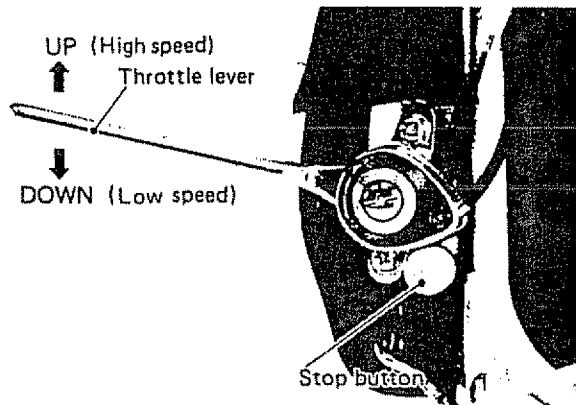

Figure 7
3. Push up throttle lever. (Fig. 7)
2. Stop the engine by pushing stop button. (Fig. 7)